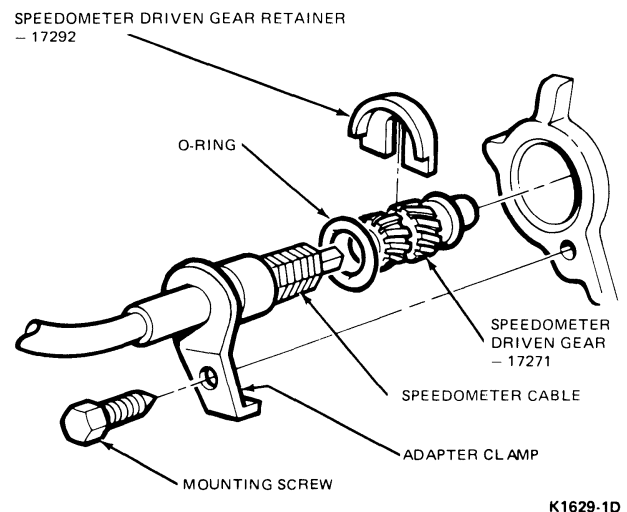

FIG. 5 Speedometer Driven Gear Mounting at Transmission
4. Remove the shaft and driven gear from the transmission (Fig. 5). Remove the driven gear retainer, and remove the driven gear and shaft from the cable.
1. Position the driven gear to the casing and install the gear retainer (Fig. 5). Install the driven gear and casing in the transmission, and install the retaining bolt. Lower the vehicle.
Install the core (square end first) into the upper end of the casing and push it all the way through to the transmission (Fig. 5). When the cable is nearly seated, twist it slightly to make sure that the squared end is engaged in the speedometer driven gear at the transmission.
and grommet through the opening in the dash panel. Raise the vehicle on a hoist and disengage the cable from all retaining clips and/or clamps. Note the location of the various mounting clips, clamps, bolts and nuts and their relationship to the cable for reference during installation. Disconnect the cable assembly from the transmission (Fig. 5). Remove the assembly from the vehicle.